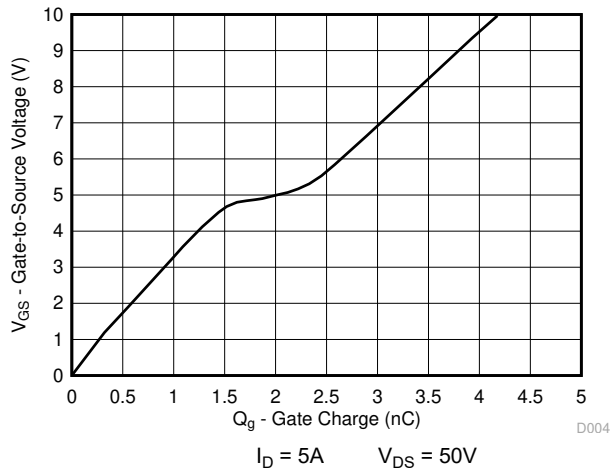

Figure 3-4. Gate Charge
- Changed test voltage V_{DS} from 100V : to 50V in Figure 3-4 **4**